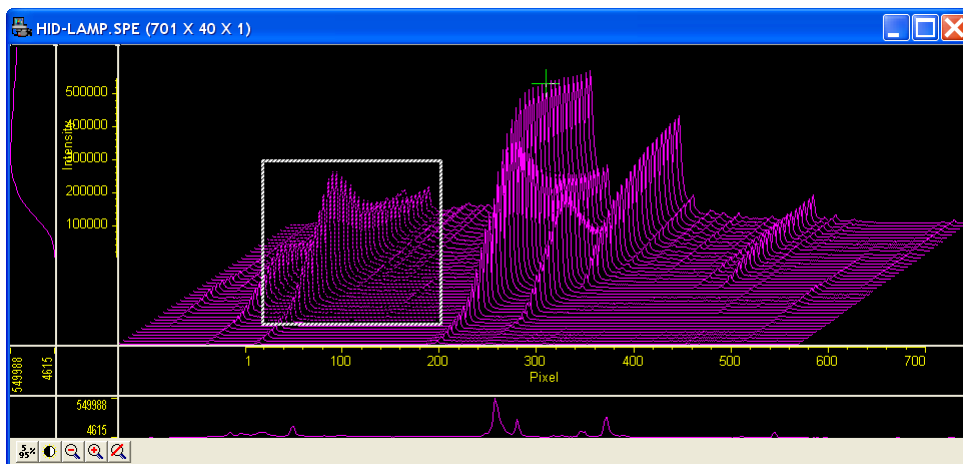

Figure 57. Hid-lamp.spe 3D Graph with Region selected for viewing
1. Using the mouse, drag a rectangular region on the image as shown in Figure 57.